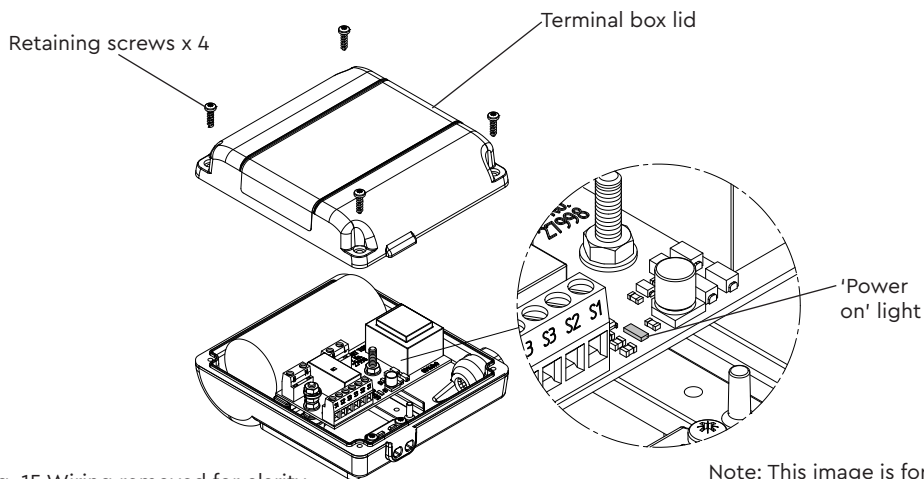

Fig. 15 Wiring removed for clarity
- Remove the four screws retaining the terminal box lid (Fig. 15).